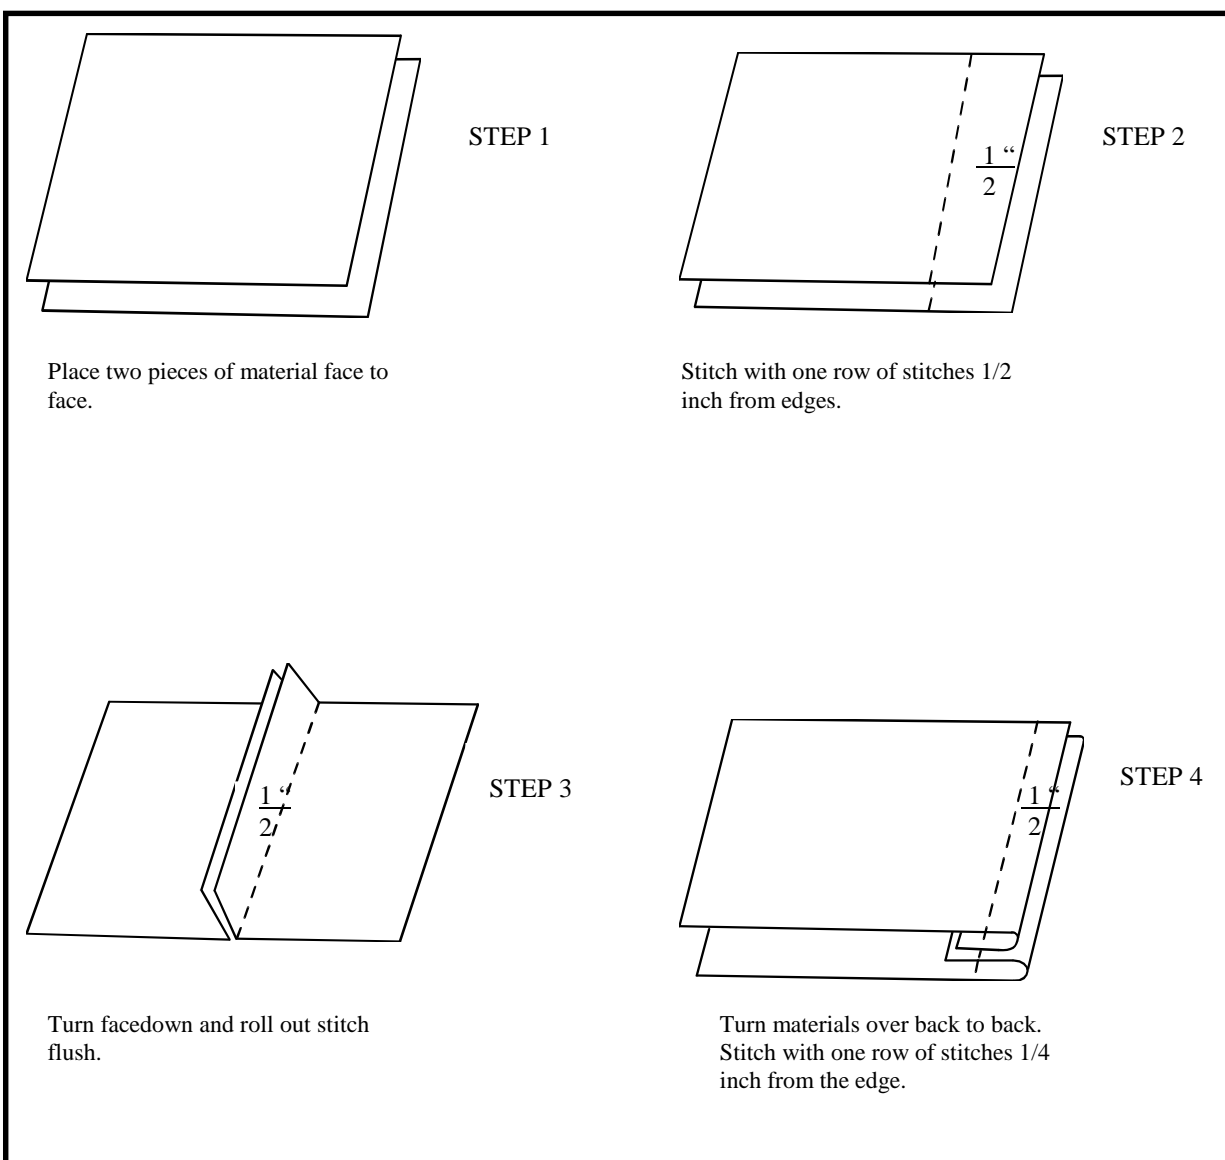

Figure 3-14. Seam type 6
g. Seam Type 6. Seam type 6 (Figure 3-14) is a simple seam topstitched to enclose the raw edges. It is used to finish the edge on cuffs, collars, and pocket flaps. This seam is also used to sew welts on side pockets. To make seam type 6--
- (1) Cut an 8- by 8-inches piece of material into two pieces 4 inches by 8 inches.
- (2) Place the two pieces squarely over each other, and face to face.
- (3) Mark the top piece of material 1/2 inch from the right edge (8-inch length).
- (4) Make certain the marked edges are even.
- (5) Join the two pieces of the material together by sewing with a simple seam. Tack the stitch lines at both ends with a 1-inch tack. (no less than 7/8 inch, or no more than 1 1/8 inches).
- (6) Fold the bottom piece of the material to the right and press the seams open with an iron.
- (7) Fold the right material over the left piece of material. (At this point, the simple seam is at the operator's right and the top material is face up).
- (8) Mark the top material 1/4 inch from the right edge (this is where the two materials are joined with a simple seam) across the length of material.
- (9) Sew a row of stitches following the mark 1/4 inch from the right edge of both pieces of the material. Make sure the stitching is straight and evenly spaced 1/4 inch from the edge).
- (10) Make sure each seam line has a 1-inch tack at both ends. (no less than 7/8 inch, no more than 1 1/8 inches).